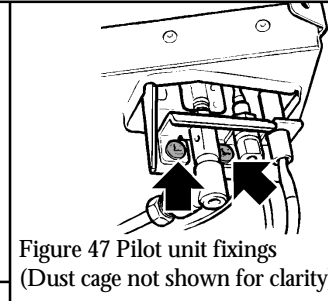

Figure 47 Pilot unit fixings
16.3.8 Remove the first screw securing the dust cage to the pilot unit & burner (see figure. 47). Carefully remove the dust cage and place aside.